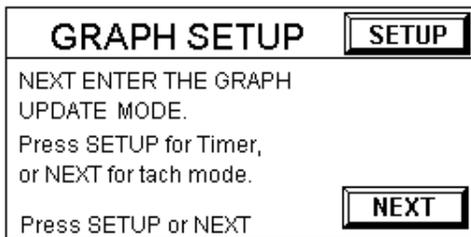

Figure ZD.2-44: Enter Graph Update Screen
- 2) Press “NEXT” three times to skip to the Set update time factor function. The *Graph Setup Screen* changes to describe the setting of the update time factor {Figure ZD.2-44}.